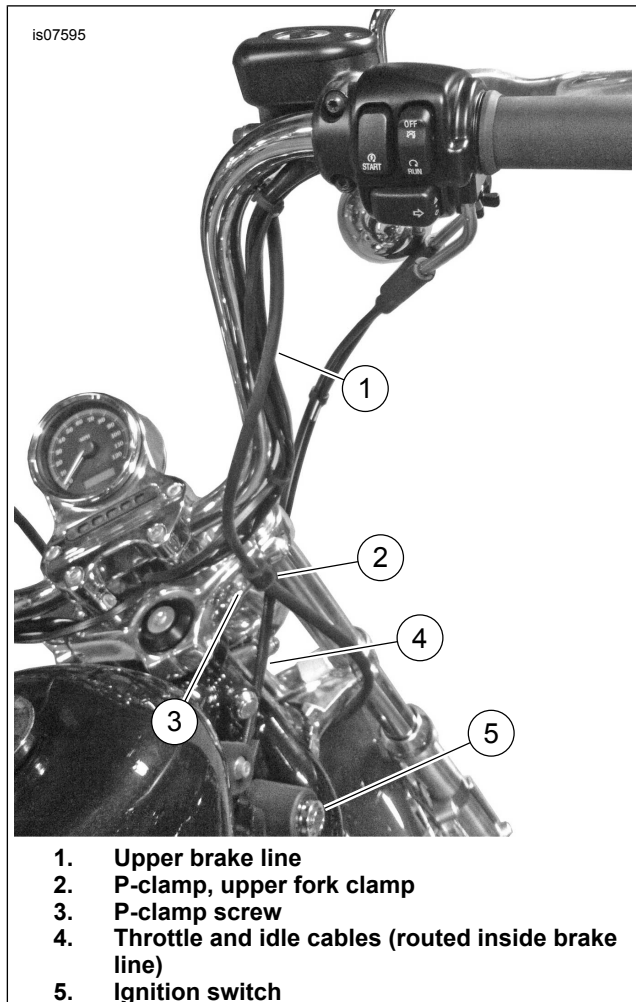
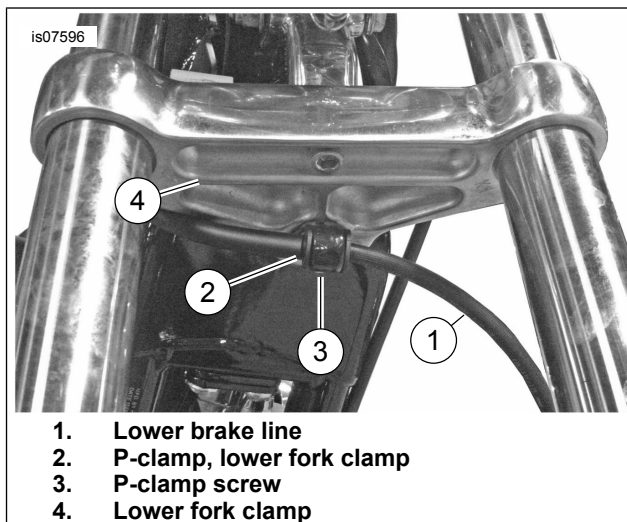

Figure 3. Upper Brake Line Routing
Figure 4. Non-ABS Lower Brake Line Routing (single caliper)
3. See Figure 3 and Figure 4. Remove the existing P-clamps and mounting hardware from the following locations: Save the mounting hardware for later installation. Discard the P-clamps.
5. See Figure 4. Route the remainder of the lower brake line toward the lower fork clamp.
- b. **All other installations:** See Figure 3. Use a new P-clamp (2) from the upper brake line kit to install the brake line (1) to the upper fork clamp. Loosely install the screw (3) removed earlier into the upper fork clamp so brake line adjustments can still be made.
2. Route the remainder of the upper brake line under the lower fork clamp. See Figure 4. On single-caliper models, loosely install a new cushioned P-clamp (2) from the lower brake line kit over the swivel-nut end of the upper brake line. Position so that it can be mounted with fastener behind the brake line.
- See Figure 4. For single-caliper models, position the cushioned P-clamp over the fitting connection, and align with the underside of the lower fork clamp stem. The flat side of the clamp is up against the bottom of the lower fork clamp. The loop of the cushioned clamp faces toward the front of the vehicle.
3. Disconnect the brake line tube nut connections (3) at the rear of the lower brake line manifold.
4. See Figure 3. Remove P-clamp fastener (3) and P-clamp (2) from upper fork bracket. Save the fastener. Discard the P-clamp.